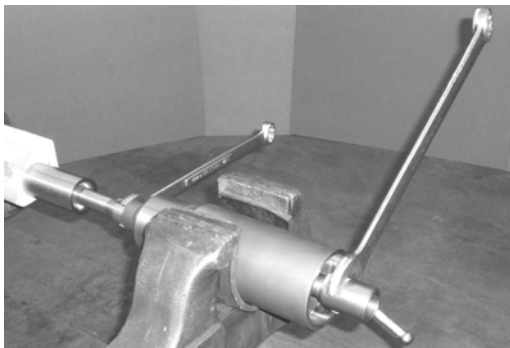

Figure 12-12a HH46, HH57, HH68 & HH108 Tighten Thread Adapter to Valve Stem.
9. Place an open-end wrench across the flats of the Valve Stem. Refer to Figure 12-12a.